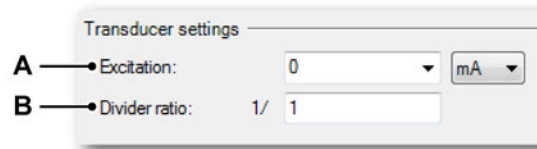

Figure 2.29: Transducer settings/Current Probe (Aout)
- Current Probe (Aout) (see Figure 2.29)
When a Current Probe (Aout) is selected, the following settings are shown (see Figure 2.29).